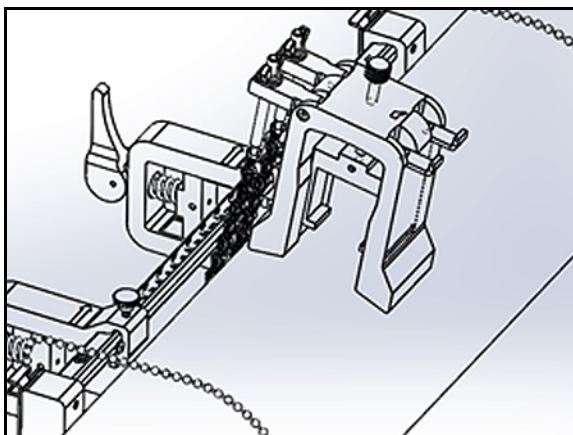

Figure 26: Yoke Placement On Top of Pipe
2. Place the yoke on the top of the pipe (see *Figure 26* below). If the required transducer spacing is $<305\text{ mm}/12\text{ in.}$, the yoke chain must be placed within the clamping fixture as shown.